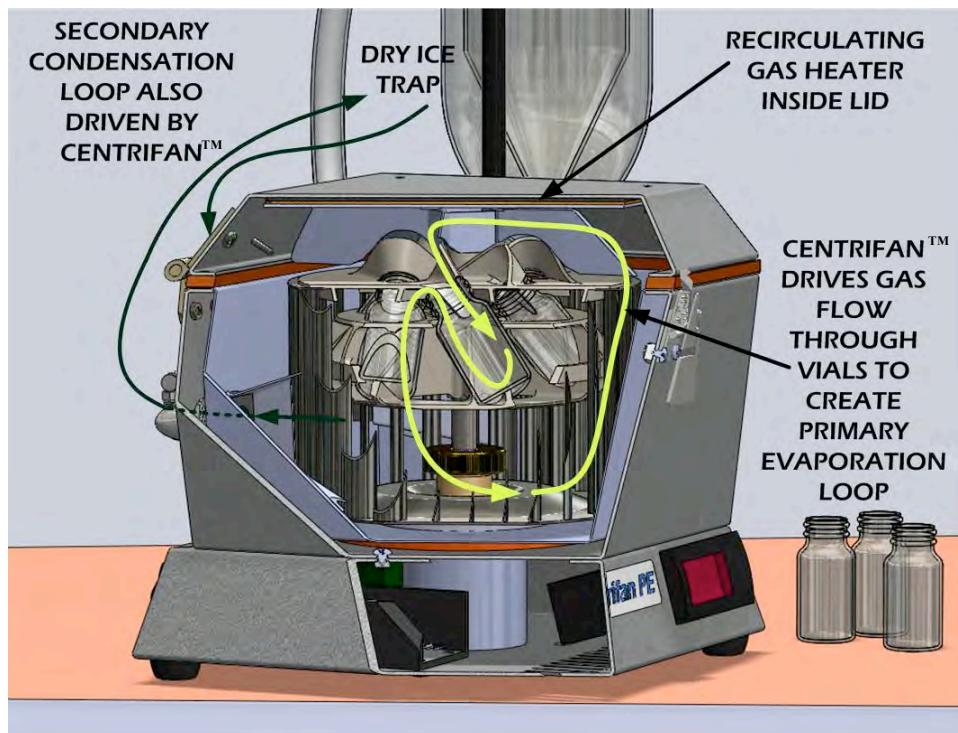

Figure 1-3: Evaporation Path in Green; Condensation Path in Black
The actual circulation paths are traced through a cross section of the instrument depicted in Figure 1-3.
- A *primary or evaporation* high flow path of recirculating gas removes solvent molecules from the liquid surface of the samples, which are contained in a rotor (right, yellow pathway of Figure 1-3).
- A *secondary or condensation* low flow loop continuously transfers gas with the solvent vapor to a cold trap for condensation and collection. After the solvent is removed, the gas is returned to the evaporation chamber (left, green pathway of Figure 1-3).